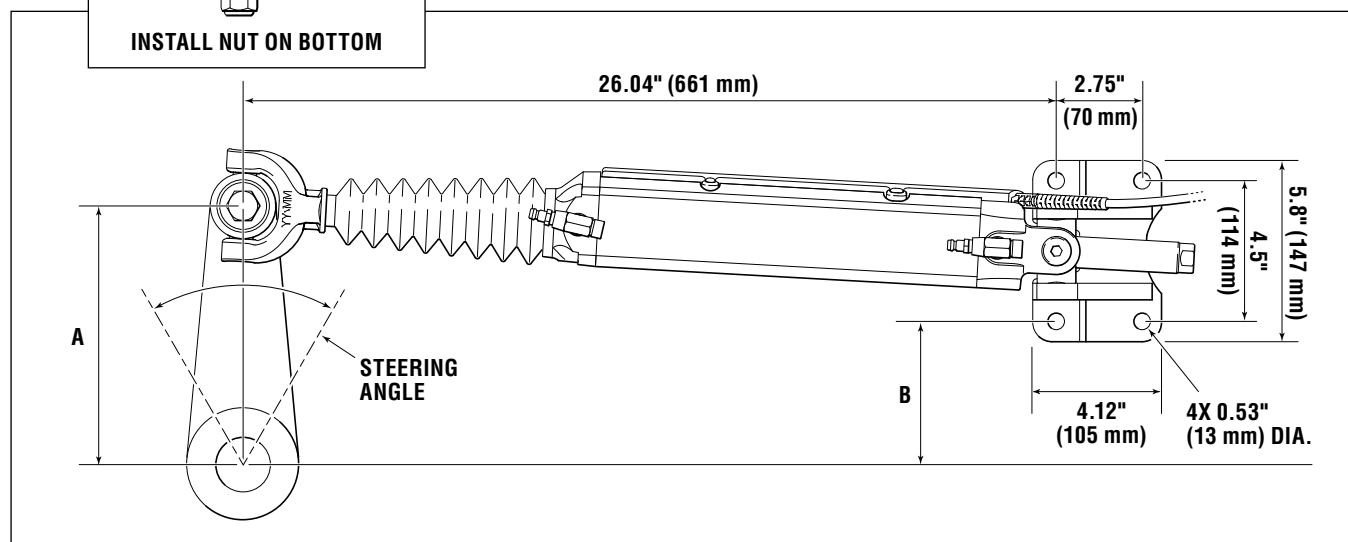

Figure 5-14.
3. Place mounting foot in location indicated in figure 5-14 and table 5-2 for desired steering angle. Shim under the feet as necessary to make the cylinder as level as possible. Vertical misalignment will accelerate cylinder wear.